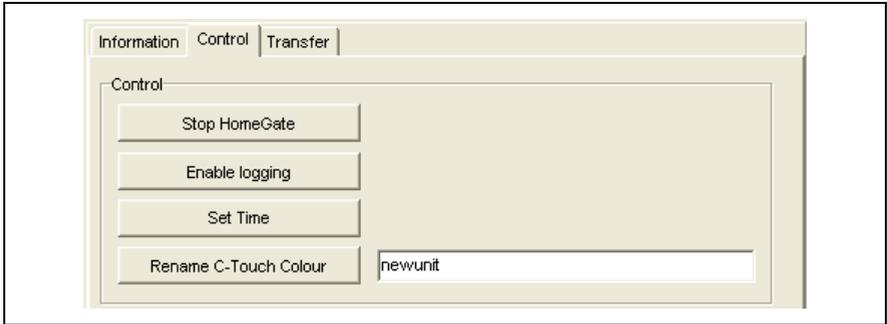

Figure 26 – The Control page in the Transfer Utility software
18) Click the Control tab to select the Control page shown in Figure 26. From here you can stop and start the C-Touch Colour’s project (in HomeGate), enable logging, set the time and change the name that identifies the C-Touch Colour over an Ethernet connection.